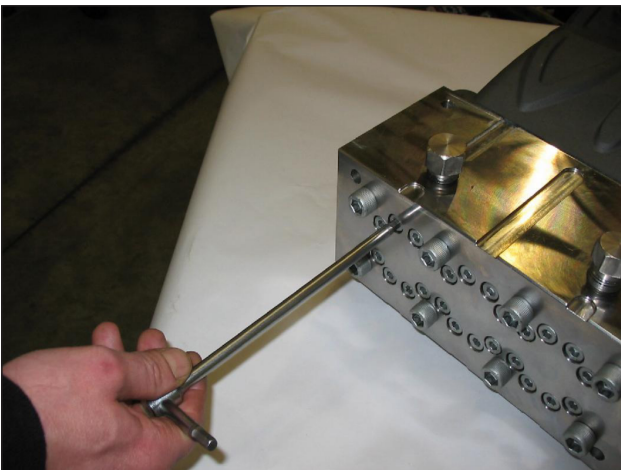

Fig. 16
- Loosen but do not remove the M8x100 screws fastening the liners to the head, as shown in Fig. 16, so as to free them.